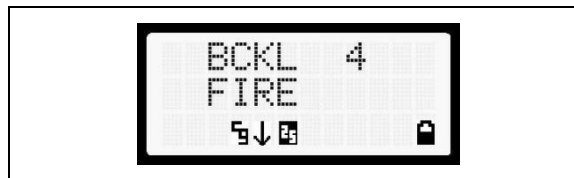

Figure 7-7: Backlight Menu Display
3. Press **[M]**. The backlight menu item is activated. Line one shows the active menu item and its current parameter setting. Line two shows the currently selected system or group name (see Figure 7-7).